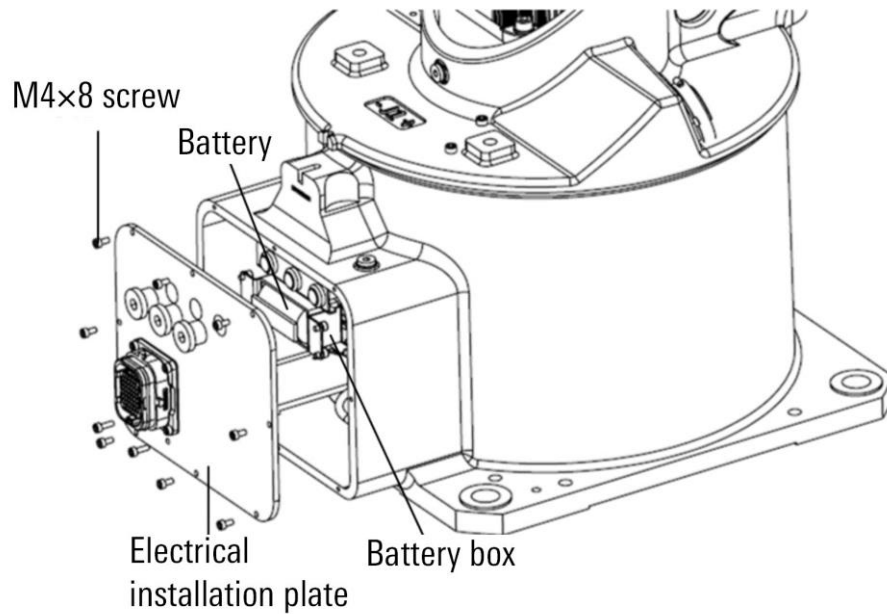

Figure 12-5 Electrical installation panel for small and heavy load disassembly and manipulator
- Step3. Remove the electrical installation board of the manipulator and remove the battery box, as shown in Figure 12-5.